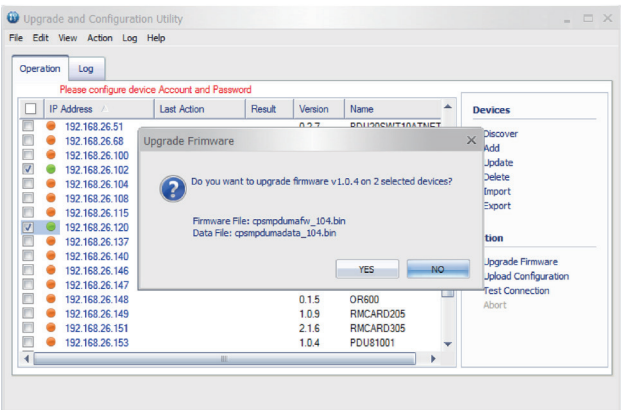

Figure 5
- 8. Click **OK** in the **Upgrade Firmware** confirmation window (Shown in Figure 5).